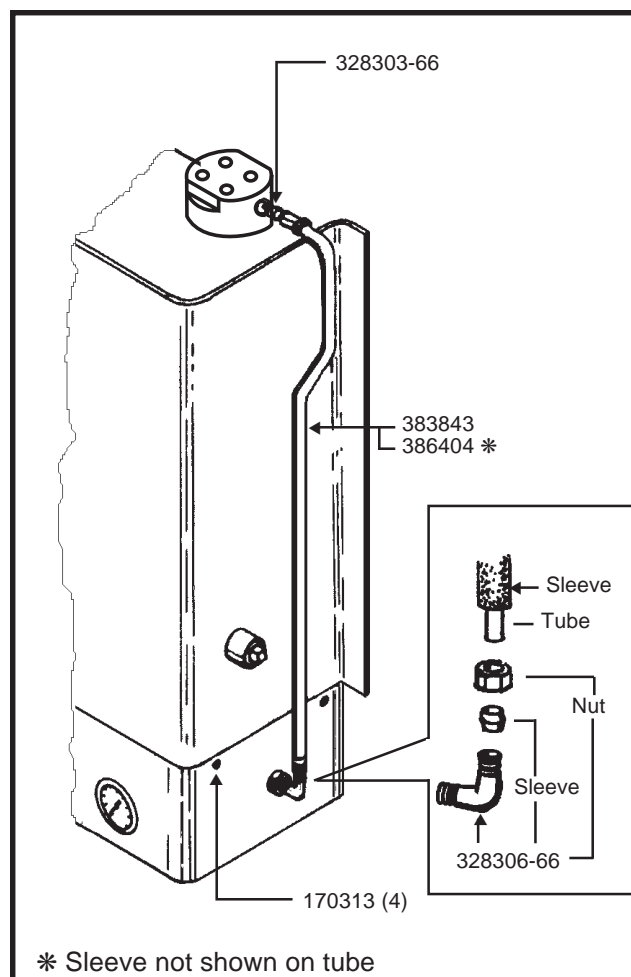

Figure 2: Kit Installation: 383808 Series
B. Mechanical : (Figure 2)
D. Installation of Air Tube and Sleeve: (Figure 2)